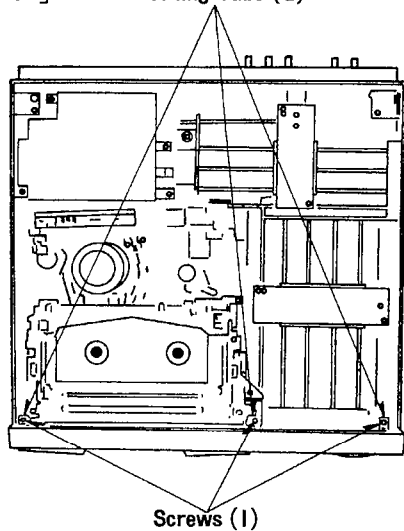
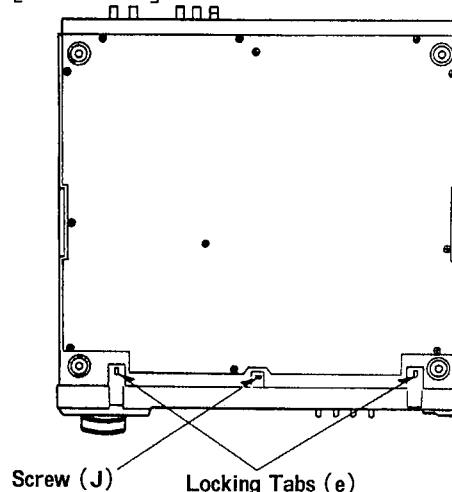

Figure D14
Figure D15
3. Unscrew the 3 screws (I) on the top of the Front Panel and a screw (J) on the bottom of the Front Panel. (Figure D14 and Figure D15)
4. Unlock the 3 locking tabs (d) on the top of the Front Panel and the 2 locking tabs (e) on the bottom of the Front Panel and then remove it. (Figure D14 and D15)